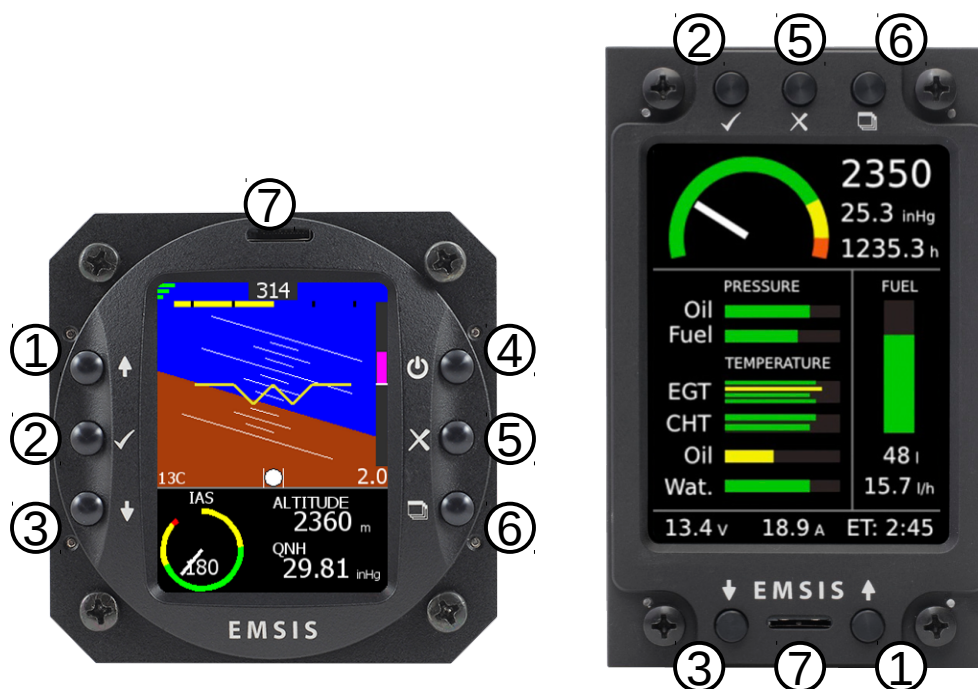

Figure 1: Organization of EMSIS front panel. EMSIS 80 mm version (left),
The EMSIS command panel is organized according to Figure 1. It uses six (80 mm version) or five (3.5" screen version) small push buttons to manipulate the user interface. Additionally, it has SD card slot for software, maps and data updates.
- Long press on the *page selector* button (see Figure 1, button 6) opens the fuel quantity window. This window accessible only when no fuel level sensors are connected and thus a software fuel tank is provided.